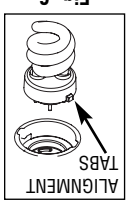

Fig. 6
4. Install new fluorescent spiral tube by placing alignment tabs in locating slots of tube. (Fig. 6)